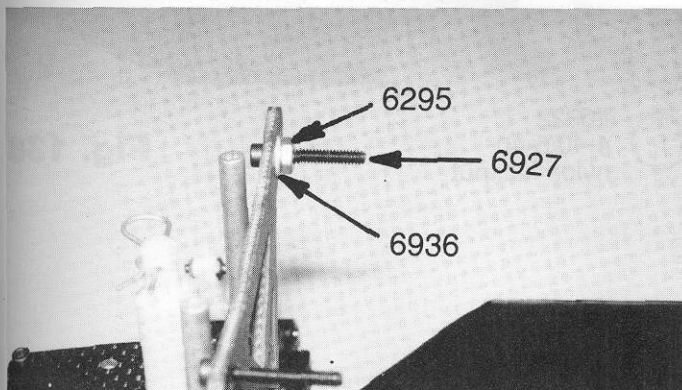
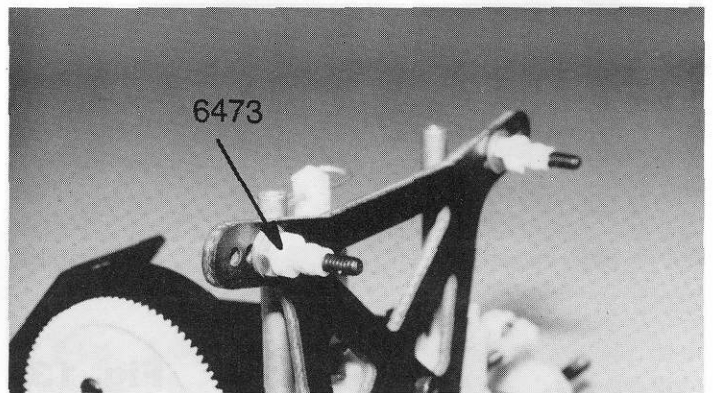

Fig. 130
Fig. 131
□ **Figs. 130 & 131** (1) From bag #6-9 remove two #6927 4-40 x 3/4" SHCScrews, two #6936 #4 aluminum flat washers, and two #6295 4-40 plain nuts. (2) There are now four holes in the top of the rear shock strut. Screw the 4-40 x 3/4" SHCScrews into the second hole from the inside of the shock strut, from the back side as shown. (3) Now install one of the #6936 #4 flat washers on the front, and then (4) thread on the #6295 4-40 plain nut. (5) Tighten the screws and nuts. (6) Next install one of the #6473 nylon shock bushings, from bag #6-9, onto each screw (see fig. 131), the flange of the bushing against the 4-40 plain nut.